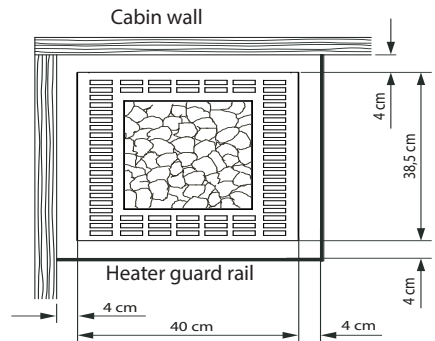

Fig. 2
- Make sure to observe the vertical safety gap between the top edge of the sauna heater and the sauna ceiling of at least 90 cm and that the horizontal (at the side) distance between the heater and cabin wall is at least 4 cm (Fig. 2).